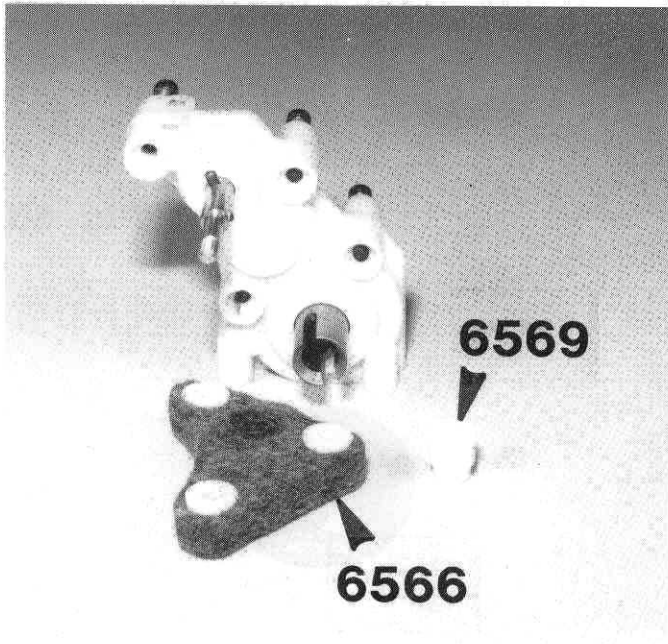

Fig. 57
□ **Fig. 57** Now from Bag C take the four #6569 plastic spacers and slip three of them into the #6566 felt dust shield from Bag F so that the small end of the spacers can go into the case holes.